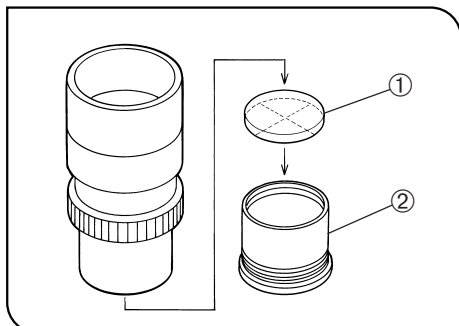

Fig. 19
4 Using Eyepiece Micrometer Disks (Fig. 19)
Following Fig. 19, remove the micrometer mounting frame ② from the eyepiece and place a micrometer disk ① into the mounting frame. Re-attach the micrometer mounting frame in the original position.